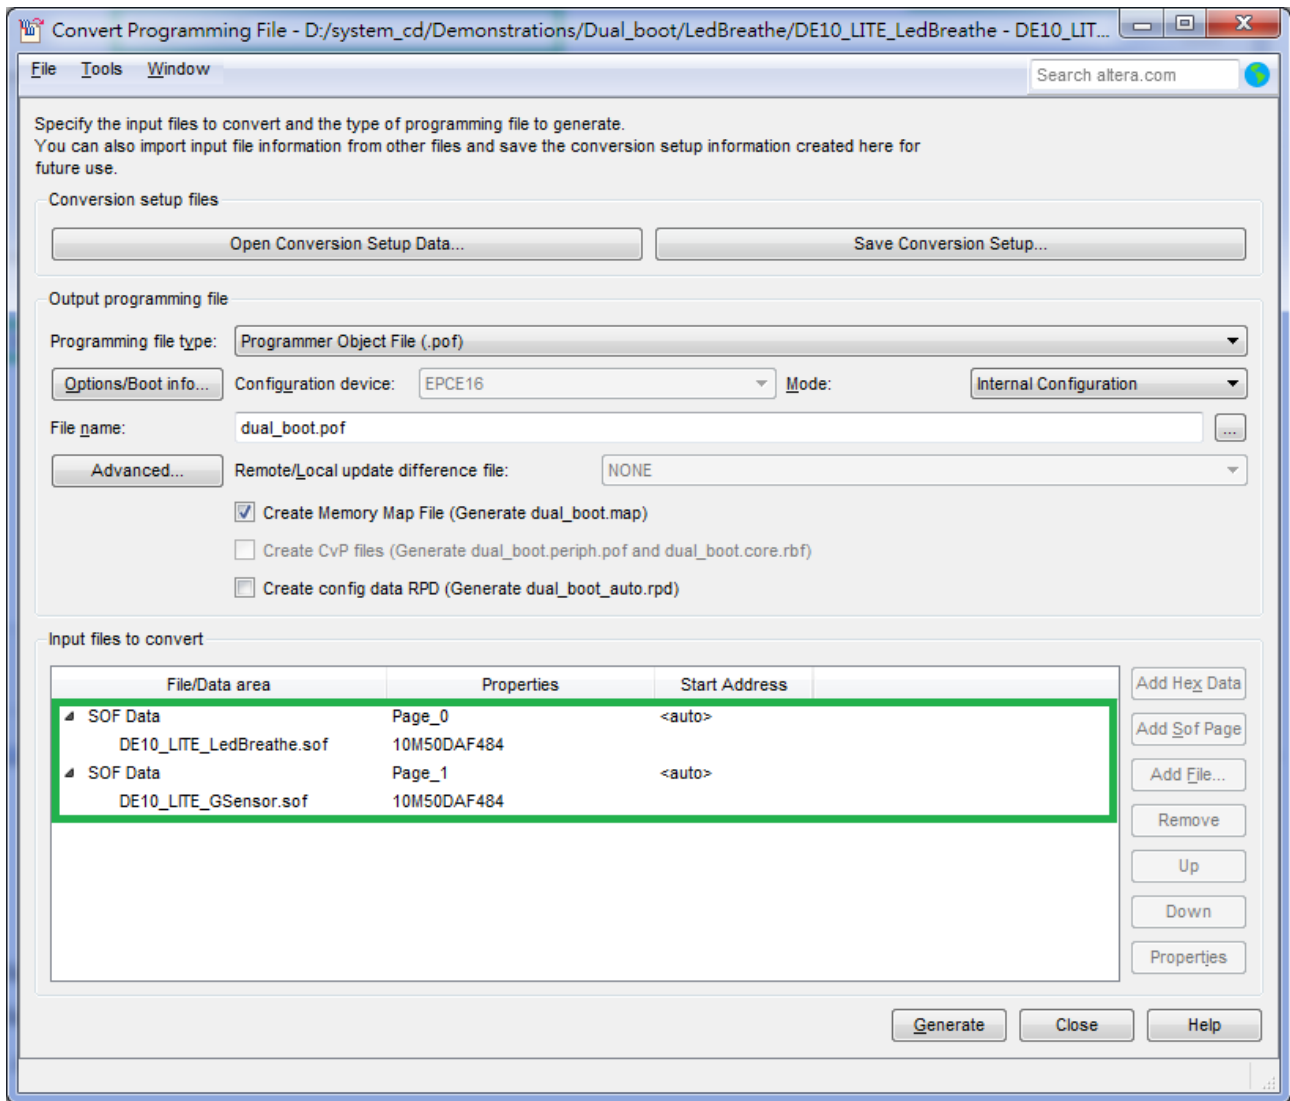

Figure 6-15 Add sof page and sof file
7. Click **Add Sof Page** to add Page_1 and click **Add File**, Select the DE10_LITE_GSensor.sof of GSensor demo to be the .sof data of Page_1 as shown in Figure 6-15.